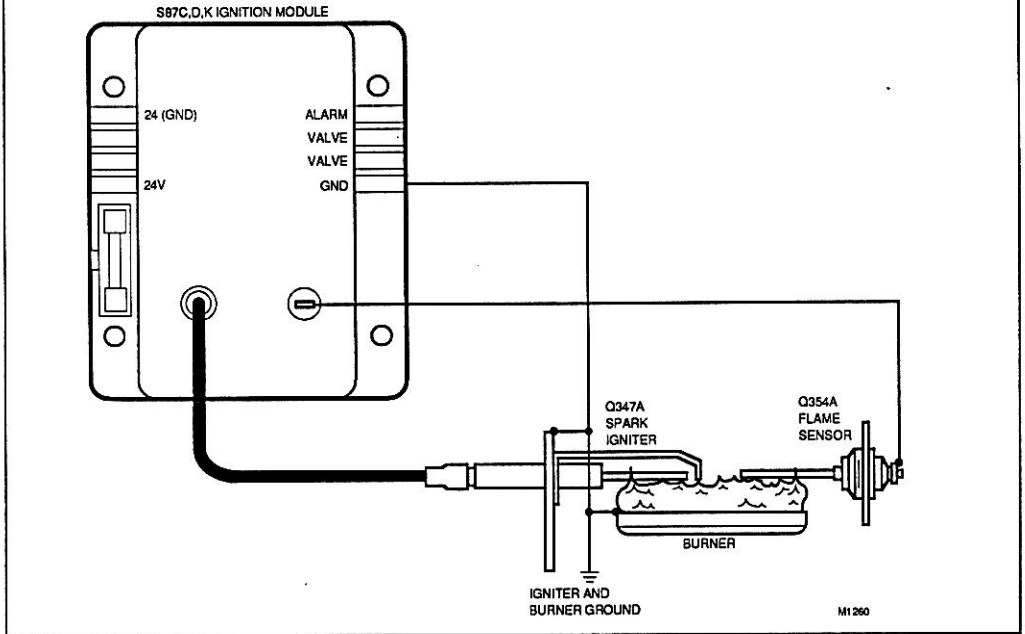

Fig. 2—Q354A, Q347A, and S87C,D,K DSI wiring connections.
2. Follow circuit diagrams provided by the appliance manufacturer. If not available, refer to Fig. 2, 3, or 4.